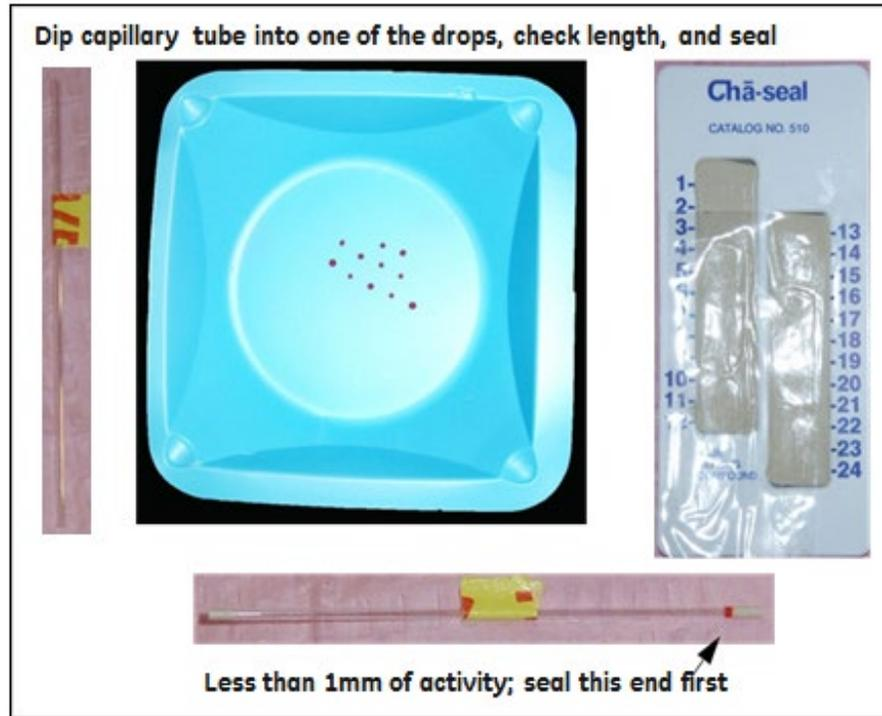

Figure 2.2: Fill and seal the capillary tubes
3. Refer to Figure 2.2. Verify the drop fills less than 1 mm of the capillary tube. If the fill length exceeds 1 mm, discard the tube and try again.
4. Refer to Figure 2.2. Press each end of the tube into the clay to seal it. First, seal the end of the tube with activity. When plugging the capillary, plunge the tube straight into the clay and all the way to the tray bottom to guarantee all three point sources are same distance from the end of the tube.